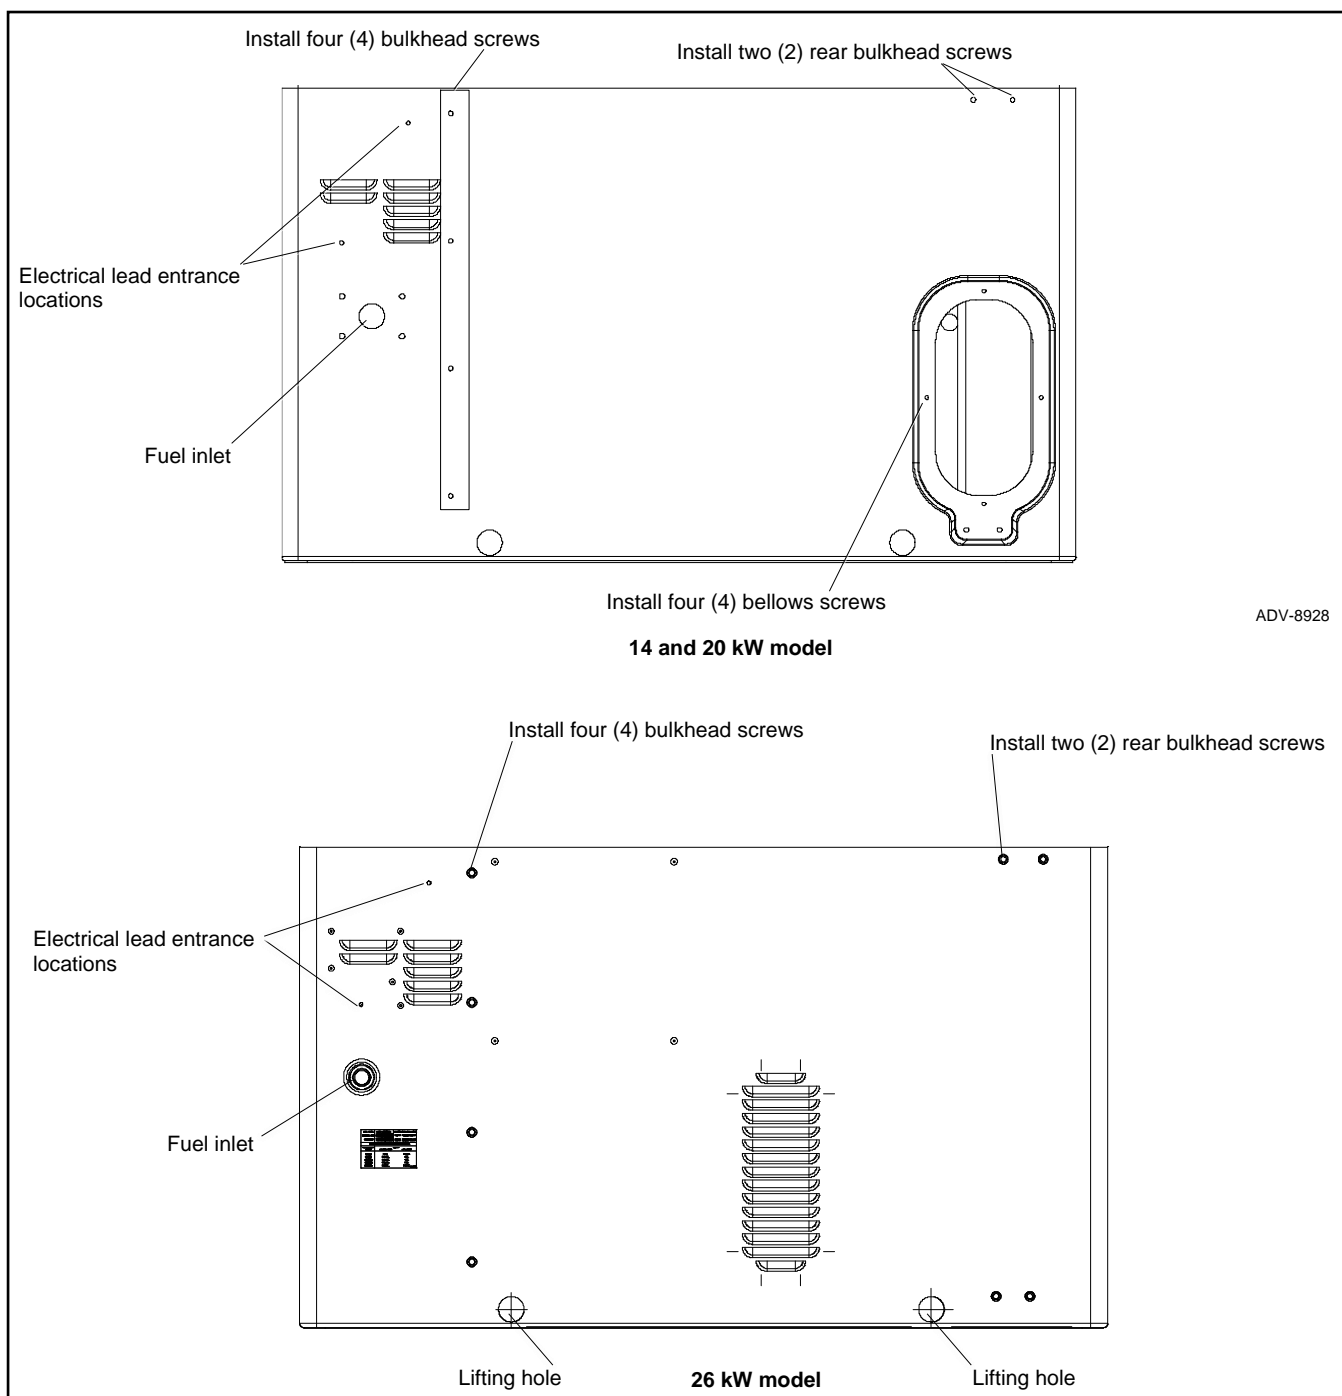

Figure 144 Left Side Panel
12. Place the left side panel into position. See Figure 144.
13. Install four screws that secure the left side panel to the bulkhead. See Figure 144.